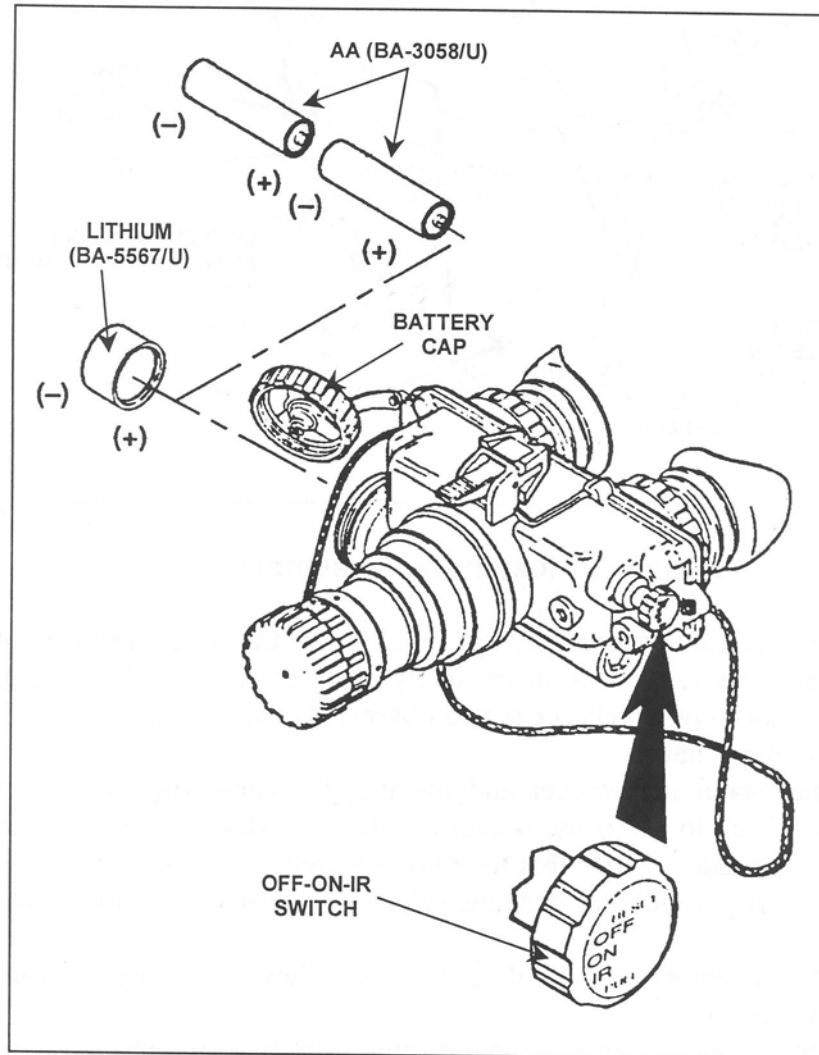

Figure 4. Battery installation.
- a. Install batteries (Figure 4).